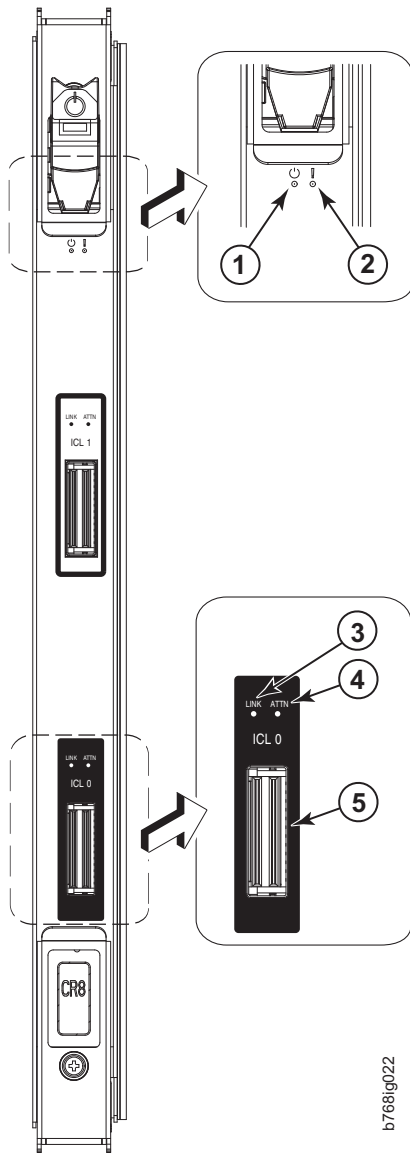

Figure 15. Core switch blade (CR8) LEDs
1. Check the LED indicators on the core switch blade (Figure 15 on page 48). The LED patterns may temporarily change during POST and other diagnostic tests; for information about how to interpret the LED patterns, see Table 7 on page 48.
Figure 15 on page 48 identifies the core switch blade.